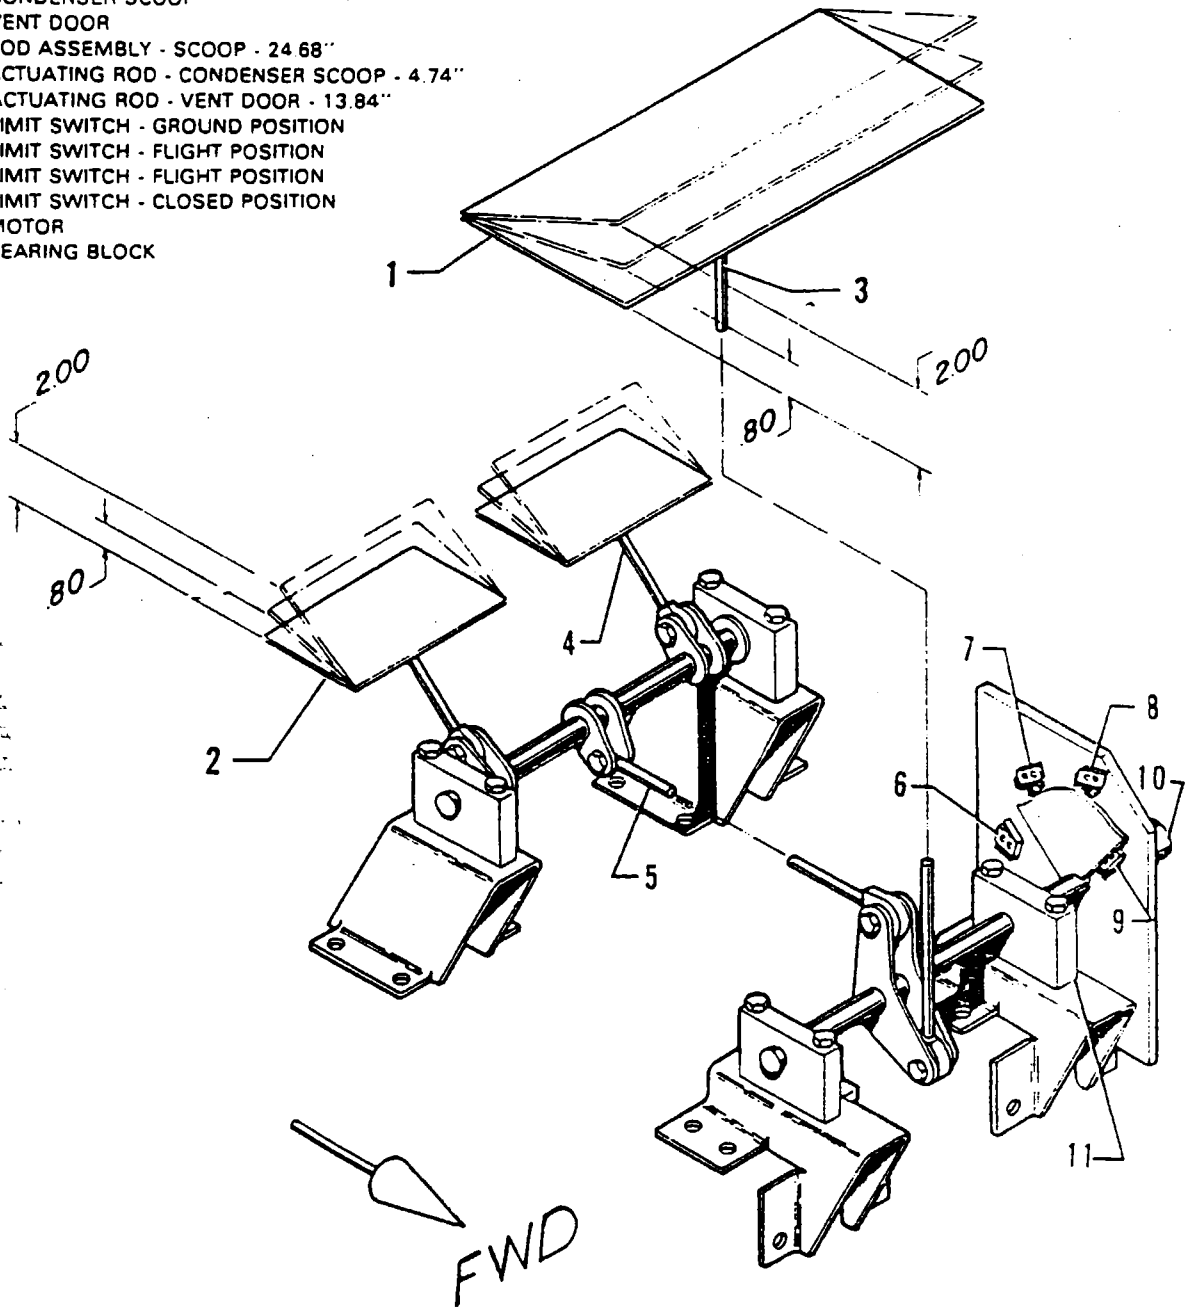

Figure 14-33. Condenser Air Scoop Installation
14-121. **CONDENSER SCOOP RIGGING INSTRUCTIONS.** (Refer to Figure 14-33.) The condenser assembly is actuated by an electric motor through bellcranks, push rods and limit switches. The scoop rigging instructions are as follows:
- 3. Place the air condition toggle switch to the on position. The scoop will then open to the flight position. The flight position should be adjusted to $.8 \pm .1$ inch. (Refer to Figure 14-33.)
- 4. Release the air condition squat switch. The scoop will then open to the ground or full open position. The full open position should be adjusted to $2.00 \pm .10$ inches. (Refer to Figure 14-33.)